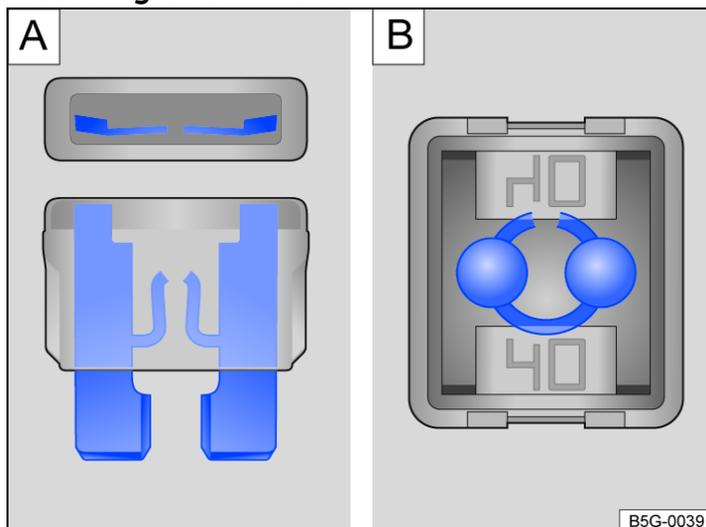

Fig. 1 Blown fuse (illustration).
- If a *flat blade fuse* (ATO®, MINI®) has blown, this can be recognised from the top and side through the transparent housing due to the melted metal strip → Fig. 1 A.
- If a *cartridge fuse* (JCASE®) has blown, this can be recognised from the top through the transparent housing due to the melted metal strip → Fig. 1 B.